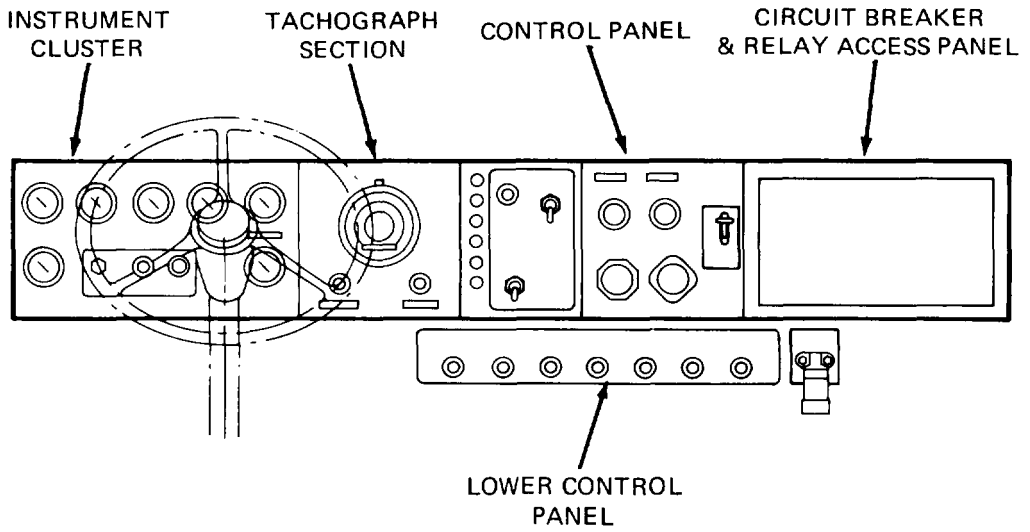

Figure 2-1. Instrument Panel.
- Instrument panel Figure 2-1
Figure 2-1 shows the entire instrument panel and identifies the major sections by name. A separate figure and key is provided for each individual panel section. (See Figures 2-2 thru 2-5).